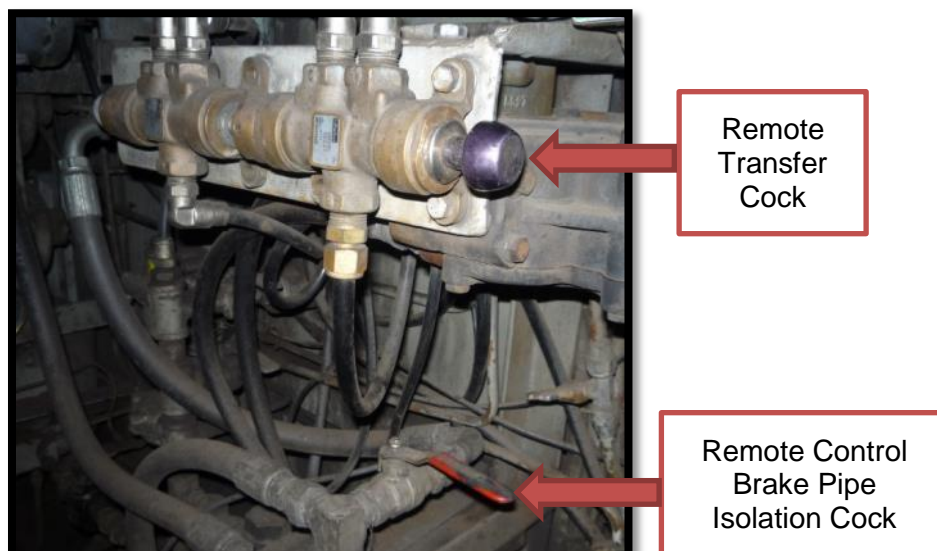

Figure 20: Remote Control Brake Isolation Cock and Remote Transfer Cock
- Check that the remote control brake pipe isolation cocks (*Figure 20*) in manual position (closed across the piping).